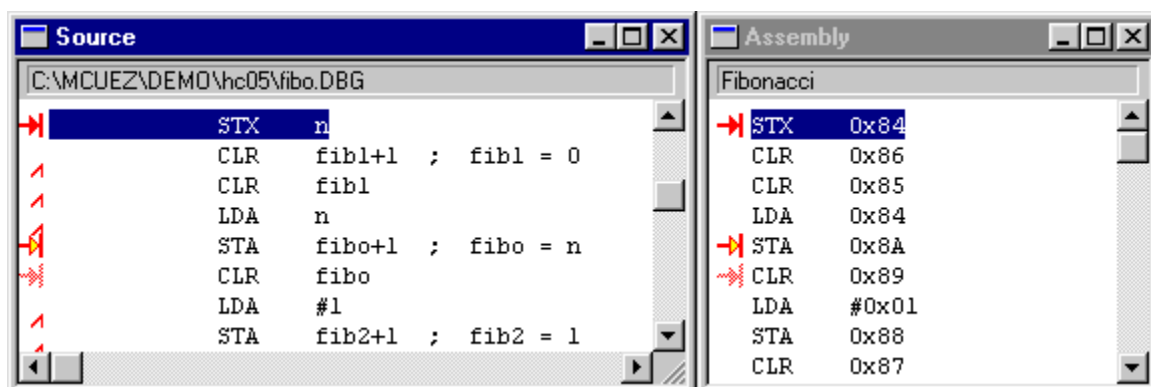

Figure 4-5. Identifying Breakpoint Positions
2. Select **Marks** from the pop-up menu. All statements where a breakpoint can be set are identified by a special mark: . See Figure 4-5.